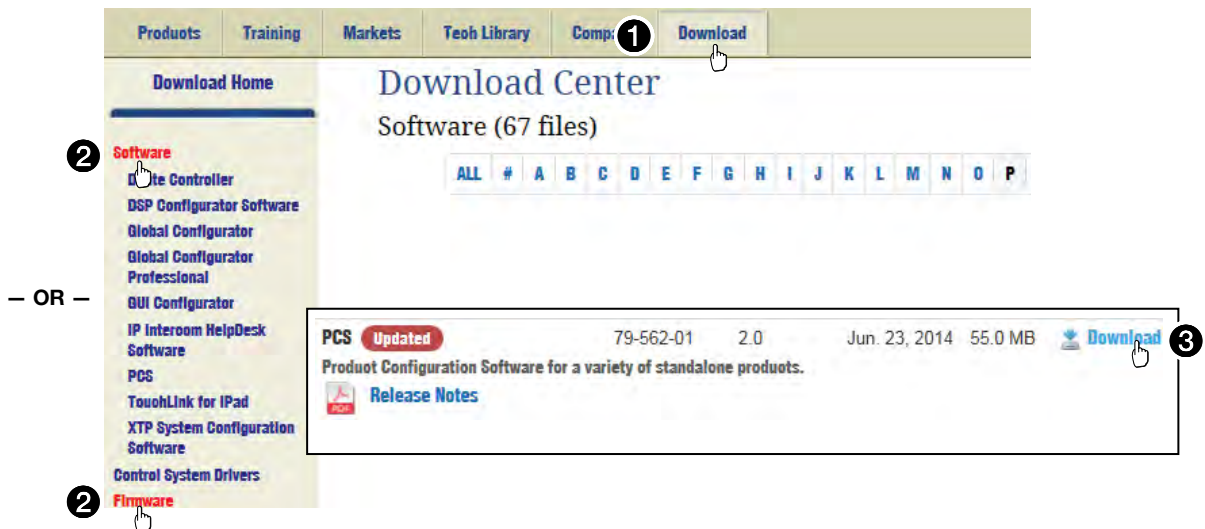

Figure 32. Downloading a Software or Firmware Package (PCS Shown)
1. Visit the website www.extron.com and click the **Download** tab (see figure 32).
3. Click **Download** for the desired software or firmware to download and (see figure 32).